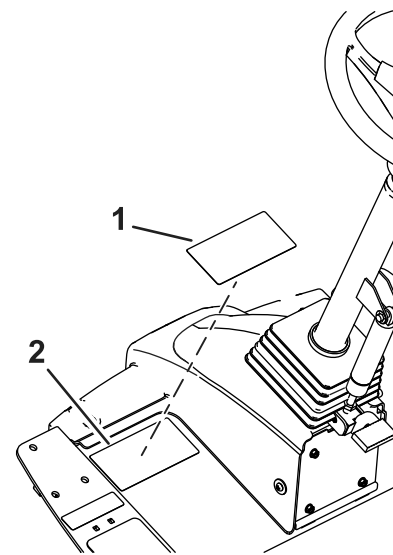

Figure 37
1. Use rubbing alcohol and a clean rag to clean the surface of warning decal, and allow the decal to dry (Figure 37).